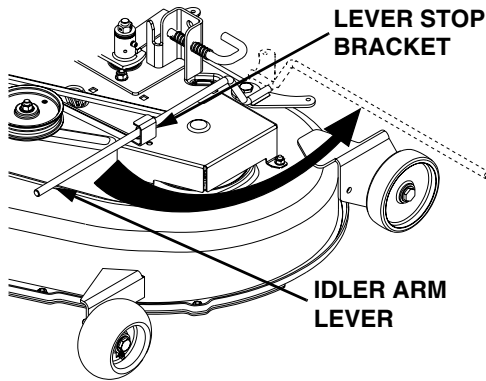

Figure 48
10. Disengage the deck idler arm lever from its stop bracket and release the spring tension by rotating the lever out and rearward (See Figure 48).